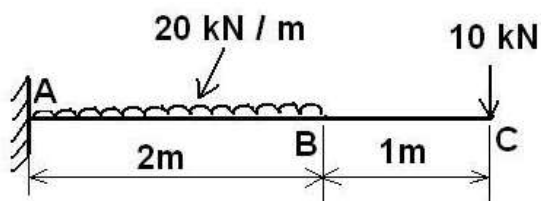

Figure 4
- (b)** Determine Slope and deflection at point C for the cantilever beam as shown in figure 4 using any method. Take $EI = 32000 \text{ kNm}^2$. **08**